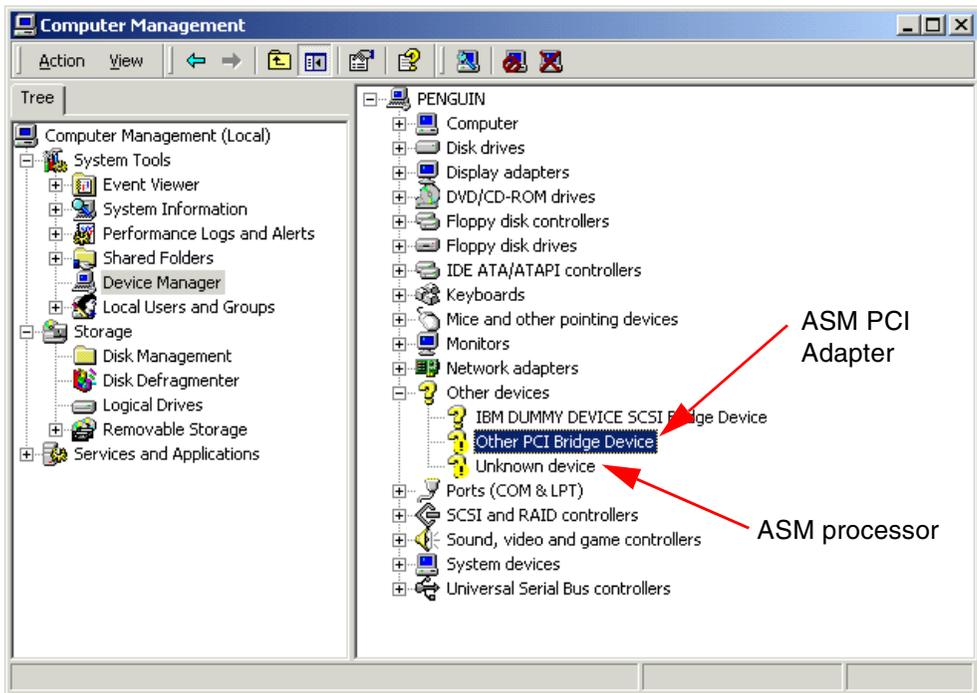

Figure 76. Device Manager — ASM processor and ASM PCI Adapter
- Figure 76 (if you have both an ASM processor and an ASM PCI Adapter)